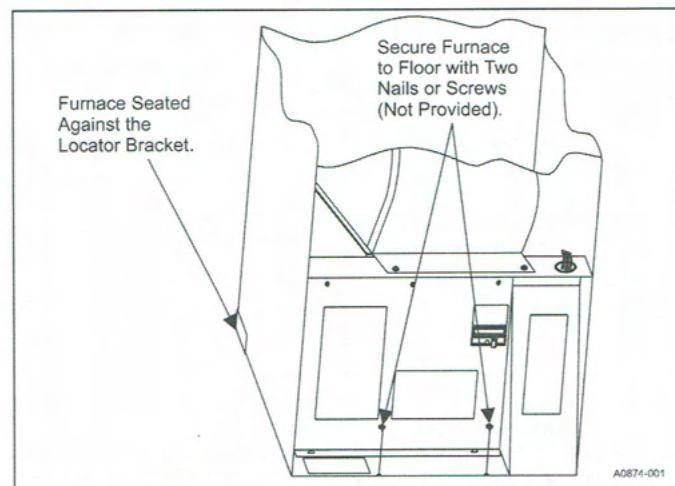

FIGURE 9: Installation of Furnace
2. Secure the front of the furnace with two screws at the provided mounting holes. See Figure 9.